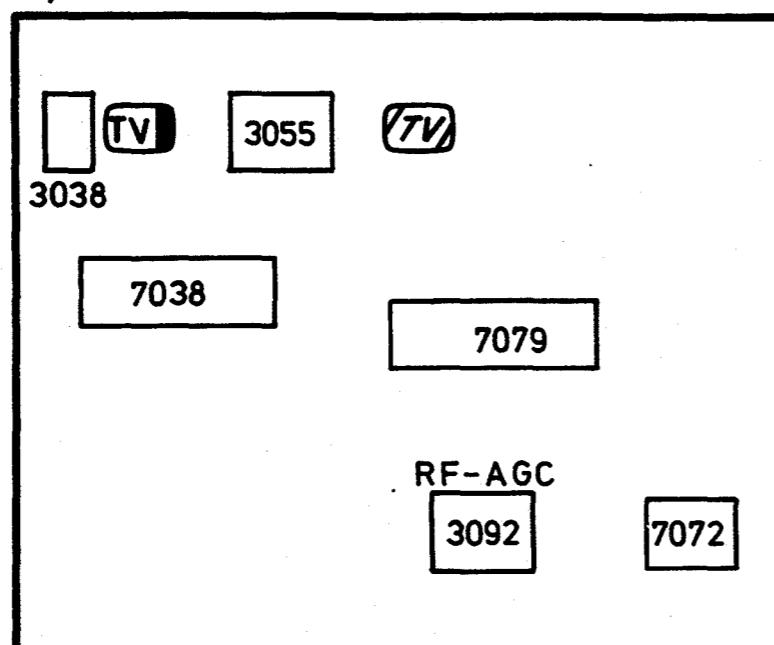

Fig.5
B. ADJUSTMENTS TO IF/SYNC UNIT 1040 (Fig. 5)